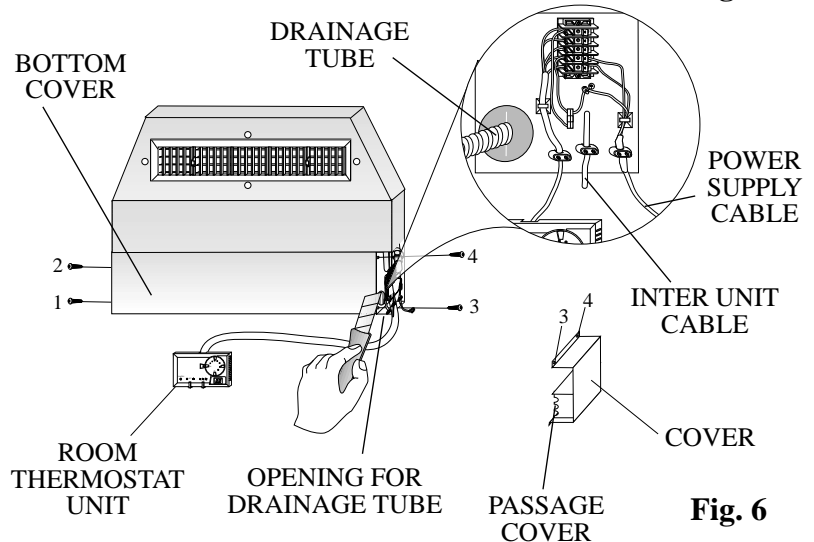

Fig. 6
- Remove the four screws which appear in Fig. 6 and remove the front bottom panel.
- Open the Diaphragm using knife, pass the drainage tube through the opening (See Fig 6).
- Take out the power supply cable, inter unit cable and room thermostat cable through the passage cover as shown in Fig. 6).